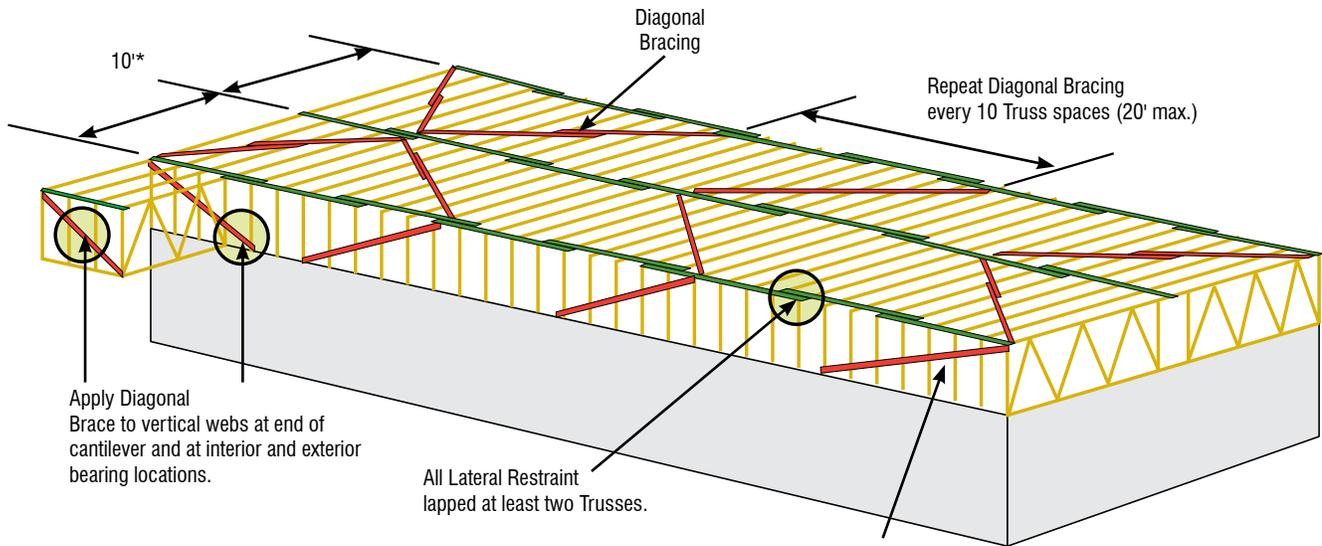
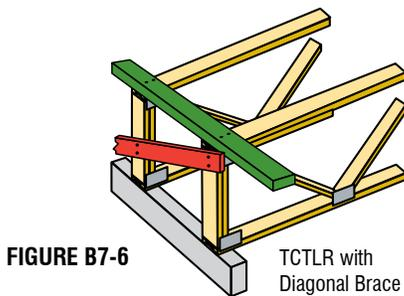

FIGURE B7-5
FIGURE B7-6
- ✓ End diagonals, with TCLR or Ribbon (band) board, Blocking Panels, or Rim board (see Figures B7-6, 7, 8 and 9) are examples of framing components that provide stability to the PCT during installation. Install one of these types of components on both ends of the Truss System and repeat every ten Truss spaces (20' maximum), see Figure B7-5.
See **NOTICE** and Figures B7-6, 7, 8 and 9 below.